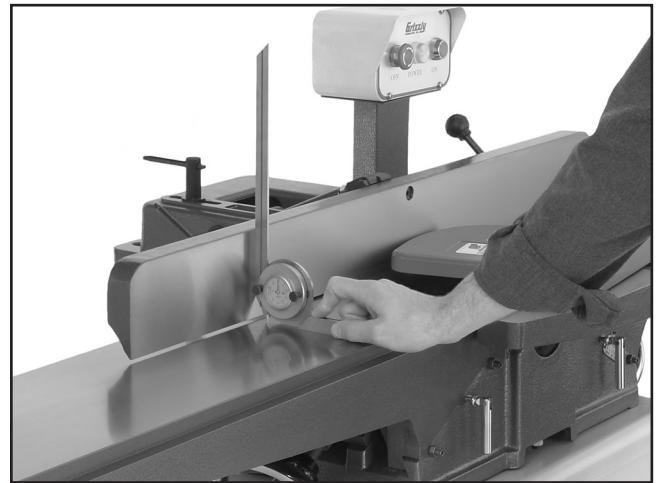

Figure 60. Example of adjusting fence to 90°.
- Using a 90° square, adjust the fence to the 90° position, as shown in **Figure 60**.